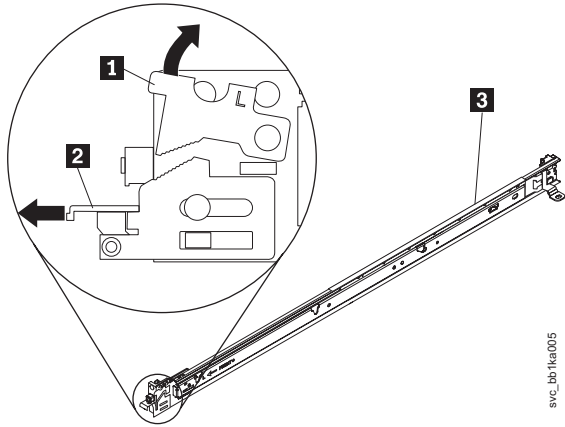

Figure 52. Installing the SAN Volume Controller 2145-CF8 slide rails on the rack
- a. Select one of the slide rails that is marked with either an R (right) or an L (left), as shown in Figure 52 on page 59.